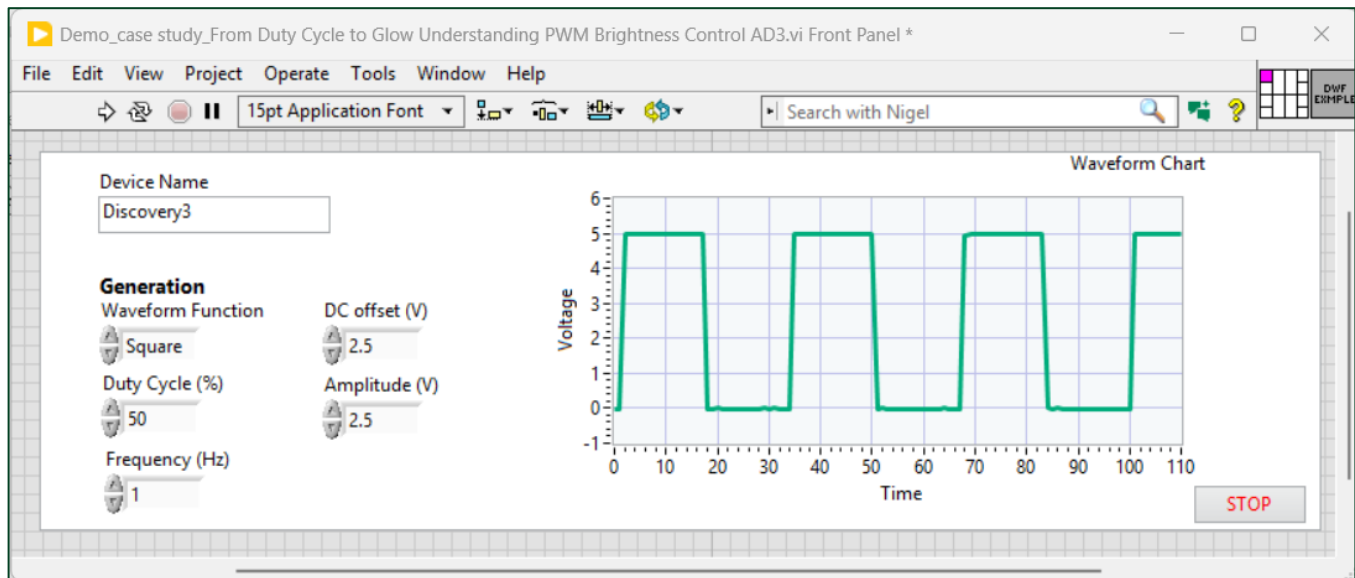

Figure 7. VI Front Panel
- 2.2. Modify the front panel shown in **Figure 7**. Inside **Device name** String Control write your corresponding **Device** name from **Table 2**.